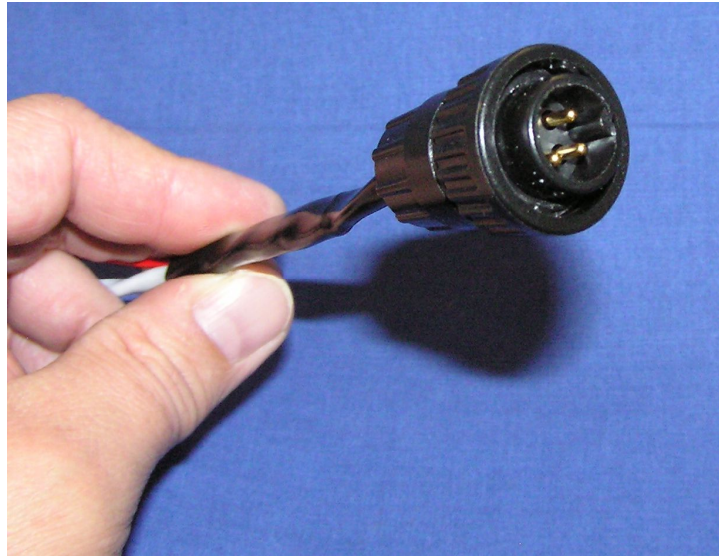

Figure 16: Coil Pack Harness Plug
- i. Route the harness with the round BLACK connector (**C2**) to the Coil Pack and connect. See Figure 16 below for how the harness should look. **CAUTION: There is a noise suppressor capacitor in the harness just below Coil Pack Connector (covered by heat shrink). Use extreme caution when routing this harness. DO NOT make sharp bends in the portion of the harness covered by the heat shrink. Make all bends past the heat shrink tube covered portion of the harness. This will prevent damage to the capacitor. Please call Electroair Tech Support if there are any questions.**